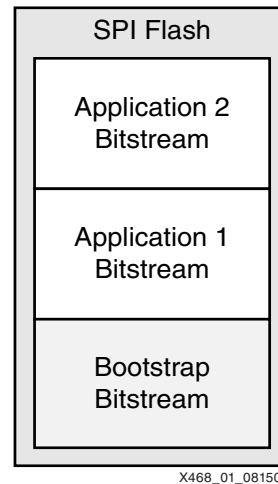

Figure 1: SPI Flash Memory Implementation
**Figure 1** shows how this reference design organizes the bitstream images in flash. A bootstrap image is always loaded first. The bootstrap image then examines the application images and decides whether or not to use one of those images by issuing a MultiBoot command to the ICAP.
The reference design implements the bootstrap loader (Figure 1) using SPI flash memory for bitstream storage. The large, external SPI flash memory provided on the Spartan-3AN FPGA Starter Kit board accommodates three application bitstreams plus the bootstrap bitstream. The In-System Flash (ISF) memory of the Spartan-3AN device accommodates one application bitstream plus the bootstrap bitstream. The MultiBoot functionality is not restricted to SPI memories and can be used with other types of memory as well. Parts of the reference design source code can be used to implement similar solutions on other Extended Spartan-3A family designs using other packages and configuration modes.